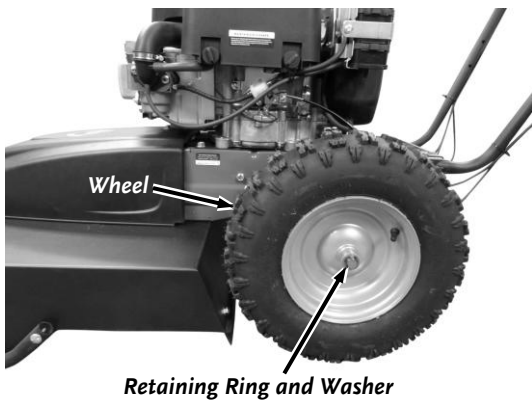

Figure 32
1. Block the machine so the Wheel you are removing is off the ground (**Figure 32**).